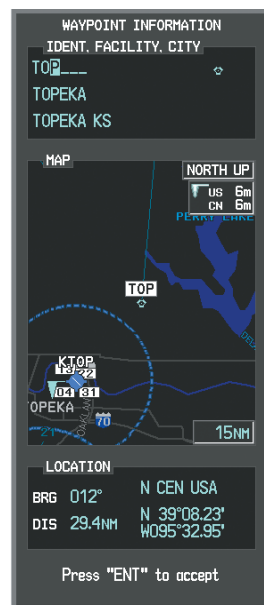

Figure 5-109 Entering V4 Entry Point
- c) Turn the small **FMS** Knob to display the Waypoint Information Window. Enter the desired entry point for V4, Topeka VOR (TOP), as shown in Figure 5-109.